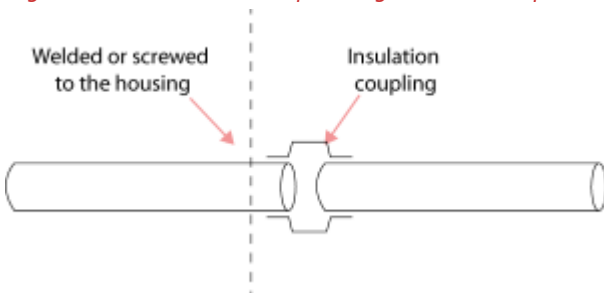

Figure 24.2: Pipes of conductive material need to be provided with insulating couplings
- **LEVEL III H** Pipes for fluids, air, heating (fig. 24.2) **64 / 69**